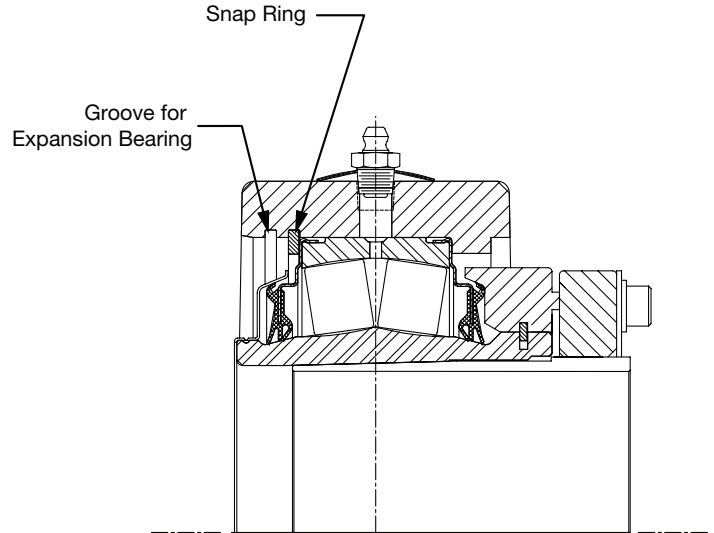

Figure 5. 4-15/16 Imperial
1. Move snap ring opposite locknut side, to the outer snap ring groove. See Figure 5.